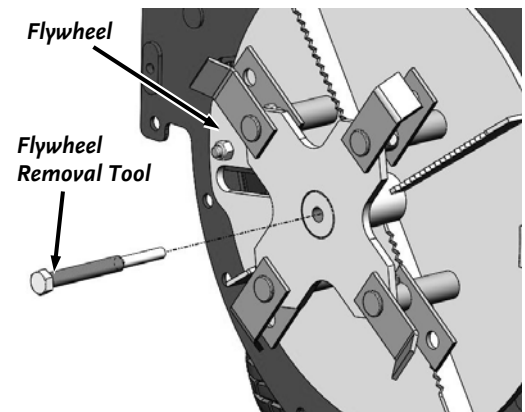

Figure 31
6. Repeat steps 2 through 4 for the other three sets of Hammers. Confirm that two of the J Hammers are facing out and the opposite two are facing in (**Figure 31**). Correct them if needed.
A Flywheel removal tool (part number 36522) is available through DR Power Equipment to allow easy removal of the flywheel (**Figure 31**). Please visit us at www.DRpower.com to order the tool.